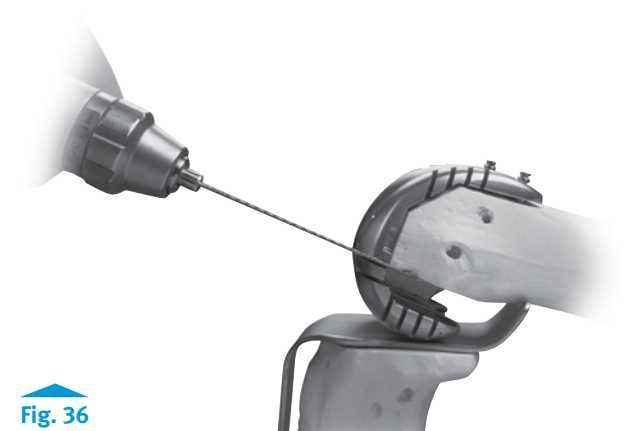

Fig. 36
- Use a 0.050 in. (1.27mm) reciprocating saw blade to make any necessary posterior or distal augment cuts through the cutting slots in the Femoral Provisional/Cutting Guide (Figs. 36 and 37). Then remove the retractor.